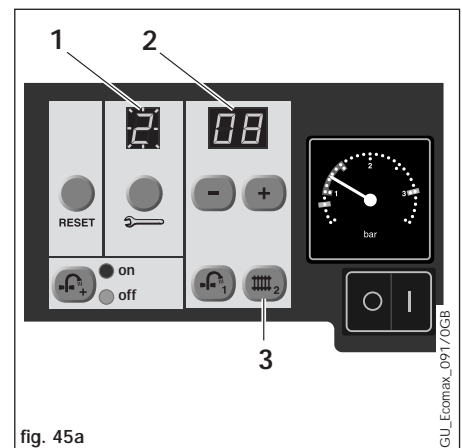

fig. 45a
ECOmax 800 boilers have an advanced multifunctional boiler display which provides key information during commissioning, operation and fault finding (fig. 45a).
When the main on/off control is in the position '1', the display will normally show a code which represents the operating status of the boiler in the status window (1, fig. 45a) and the actual boiler flow temperature in the temperature window (2, fig. 45a). This shows that the boiler is functioning correctly.
- Press the central heating temperature button  (3, fig. 45a).